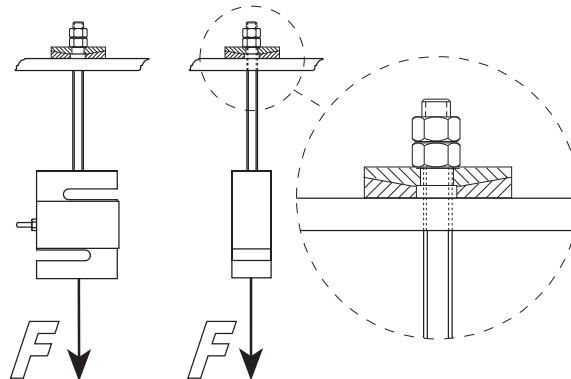

Figure 11-1. S-Beam Weigh Module
Figure 11-1 illustrates the correct way to apply load to an S-beam load cell.
- The extremities of the suspension should be attached to the structure and vessel in such a manner that they are free to move. At a minimum, use spherical washer set as illustrated in Figure 11-1.